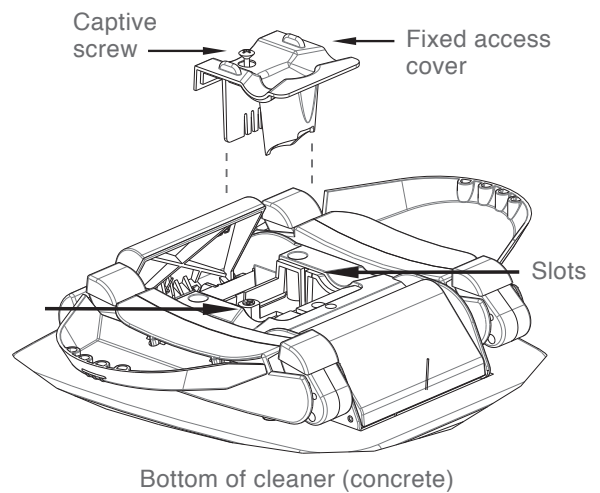

Fig. 17
6. Lift the bottom opening (see Figs. 17 & 18)
5. Locate and loosen the captive screw behind the throat in the center of the bottom (see Figs. 17 & 18).
6. Lift bottom opening (see Figs. 17 & 18).
9. Reinstall bottom opening by lining up the fixed access cover with the two slots shown in Figs. 17 & 18. Slide the cover in place and tighten the captive screw.